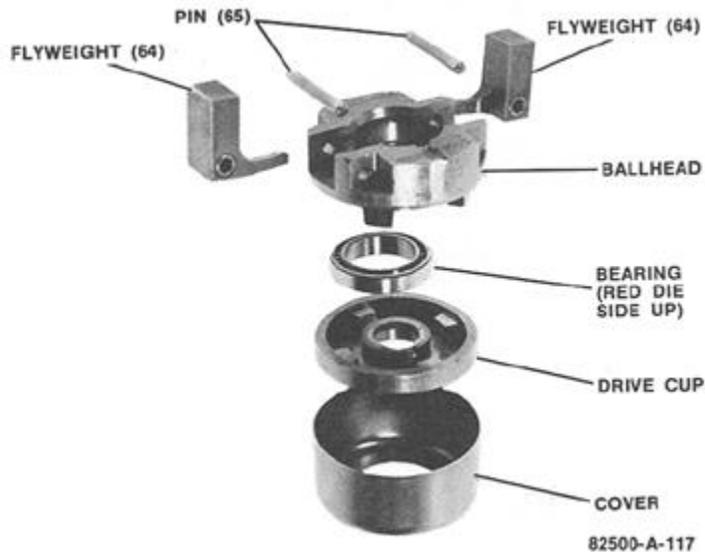

Figure 5-10. Ballhead Parts Layout
7. Assemble ballhead assembly in the order shown in Figure 5-10. This is a spring and oil damped ballhead. The spring is located in the ballhead with its tang end protruding out towards the drive cup. Place the bearing (lubricated) in drive cup with the red die side up. Position the tang end of spring over slot in inner hub of drive cup and assemble ballhead to drive cup. Assemble flyweights and pins in ballhead.